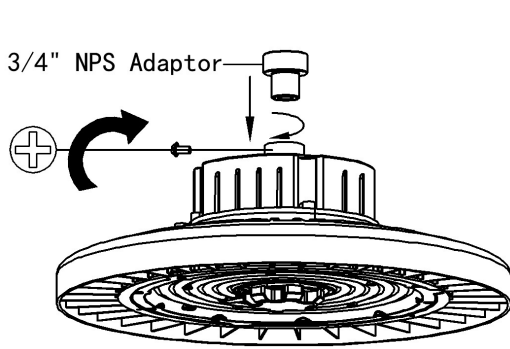
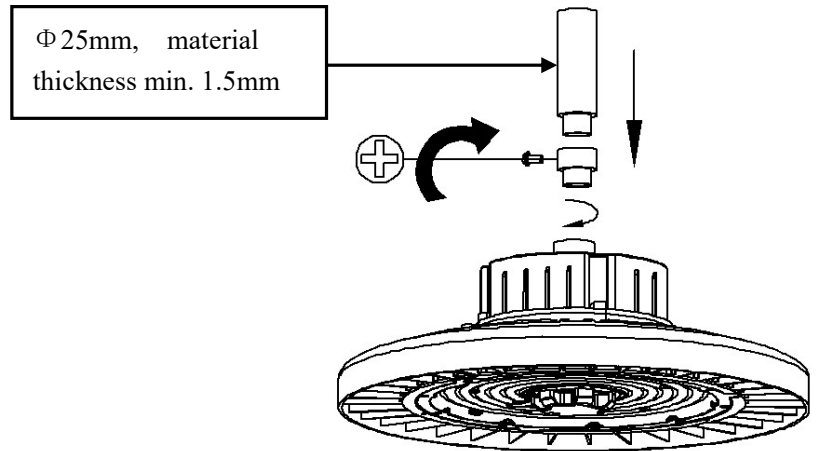

Fig. 7
Fig. 8
1. Find the 3/4" NPS adaptor from accessory bag as Fig. 7 shows (Pipe is not provided. Please choose a proper pipe with 3/4" NPS thread), install the 3/4" adaptor on fixture. See Fig. 8.